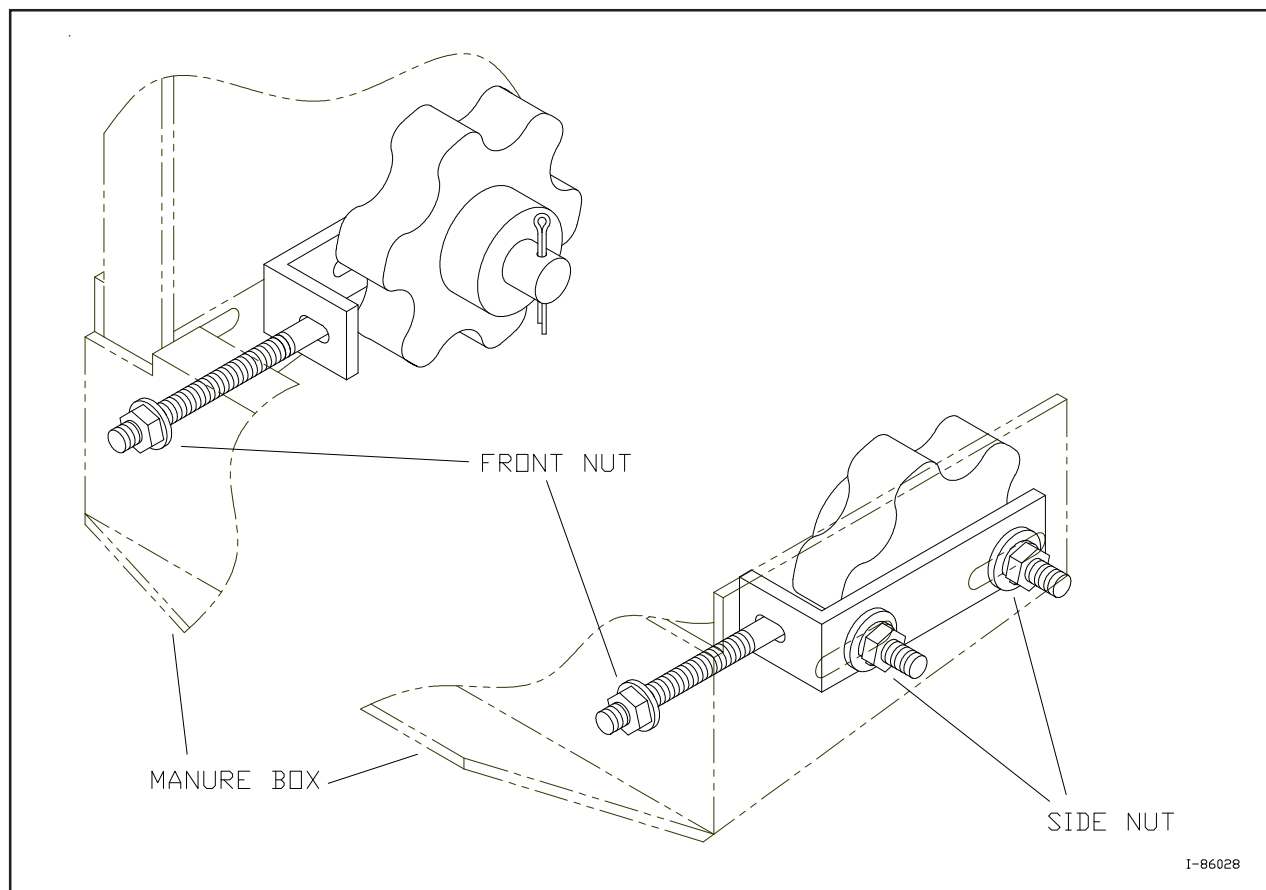

Figure 4A - Adjusting the Floor Apron Chain for Proper Tension
- Periodically check the floor apron chain for tension/tightness (refer to Figure 4A).
- If the chain needs adjustment, use a 1/2" wrench to loosen the two side nuts on each side of the spreader box as shown in Figure 4A. Turn the *front* nut clockwise or counterclockwise until correct tension/tightness is achieved. Repeat for the other side. ***Make sure that the chains on each side of the apron are equally taut.***